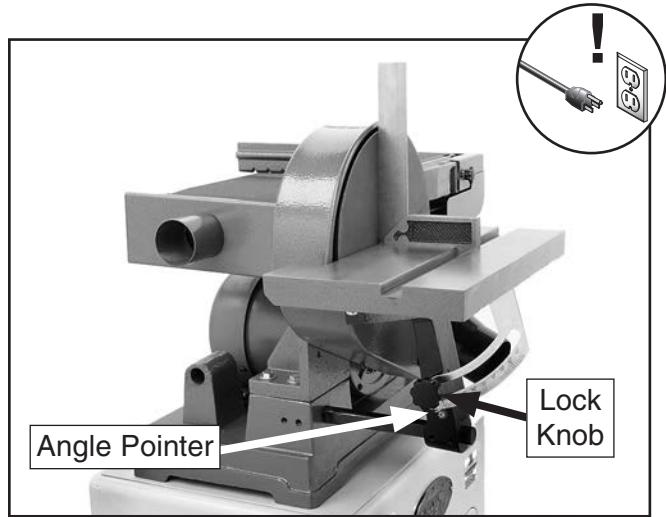

Figure 90. Using a machinist's square to adjust the work table to 90°.
2. Place a machinist's square or other 90° measuring tool against the work table and sanding disc (see **Figure 90**).